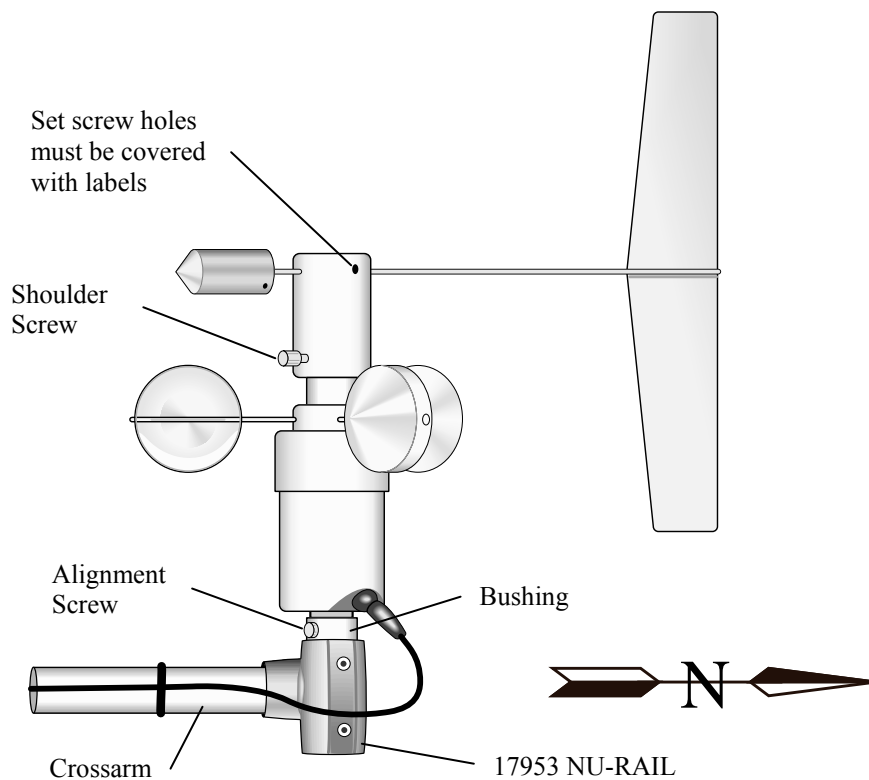

FIGURE 4-1. 034B mounted on a crossarm using a 17953 NU-RAIL crossover fitting
- 17953 1 x 1 inch NURAIL Crossover Fitting (FIGURE 4-1), or
1. Fully insert vane arm into hub (see FIGURE 4-1).
2. Align vane with center axis of sensor (see FIGURE 4-1).
3. Using the Allen wrench, tighten set screws at the top of the hub (see FIGURE 4-1).
7. Remove the alignment screw at the base of the 034B (FIGURE 4-1).
8. Insert the 034B into the aluminum bushing provided with the sensor (see FIGURE 4-1).
9. Align the hole in the bushing with that in the 034B base and replace the screw (see FIGURE 4-1).
10. Insert the 034B/bushing into the NU-RAIL fitting (FIGURE 4-1) or the CM220's U-bolt (FIGURE 4-2).
12. Remove the shoulder screw to allow the vane to rotate (see FIGURE 4-1).